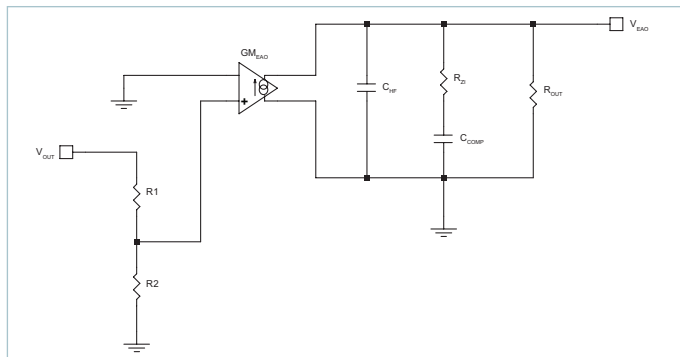
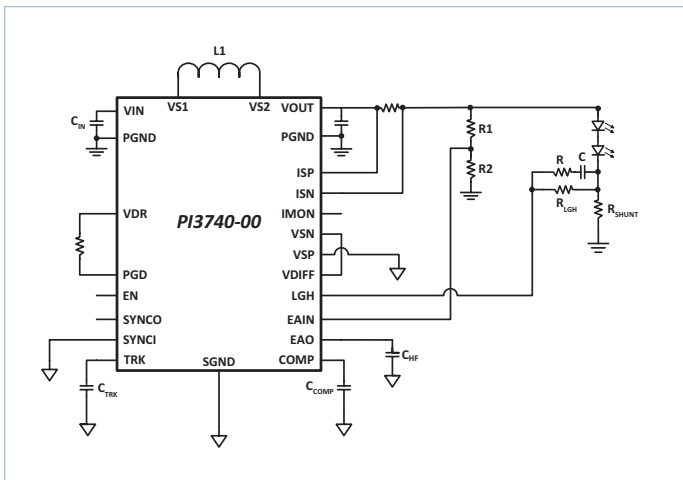

Figure 58 — PI3740-00 Error Amplifier Model
Figure 59 — Lighting Configuration Using CC Mode
When the amplifier is configured as shown in Figure 58, it forms a Type II amplifier configuration with poles and zeros determined by:
Figure 58 shows a small signal model of the modulator gain when using the application circuit shown in Figure 59 with two high current LED's in series. R_{LED} is the series combination of the AC resistance of each LED. R_{SHUNT} is used to sense the current through the LED string. Equation (16) defines the pole of transfer function.
When regulating in CC mode, it will be necessary to add a compensating zero to avoid loss of phase margin caused by the integrator stage of the LGH amplifier. A simple approach is to add a series R–C in parallel with R_{LGHT} as shown in the lighting application diagram in Figure 59. The capacitor will be chosen to work with R_{LGHT} to add a zero approximately 1.2kHz before the zero provided by the G_{M_{LGHT}} transfer function (the transconductance stage of the LGH amplifier). The external added resistor will form a high frequency pole to roll the gain off at higher frequency. Note that it is very important to understand the AC resistance of the LED's that are being used. Please consult the LED manufacturer for details. For a series string, you should add the individual LED resistances and combine them into one lumped value to simplify the analysis.